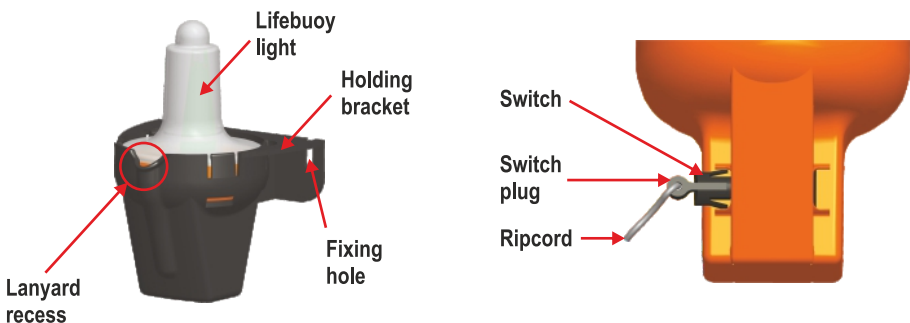

Fig 1: Parts Description
After installation of the holding bracket using one of the above ways, secure the lanyard to the lifebuoy ring (Fig 3). Then remove carefully the lifebuoy light from its holder base to ensure that the switch plug is fitted in the switch (Fig 1).
Afterwards ensure that the switch plug is fitted in the switch housing (Fig 1) and turn the switch in "OFF" position again. Fit the light into the bracket with the switch side to the back and the lanyard to the front (Fig 5).
WARNING: Ensure that the lanyard is placed in recess (Fig 1 & Fig 6). Any other way of installation might affect the proper release of the lifebuoy light. Refer to Part 4 - Inspection Process for proper installation.
The 71325 lifebuoy light is attached with a lanyard to a lifebuoy ring (Fig 3), which when thrown into the sea, pulls the lifebuoy light from its holding bracket and switches it "ON" automatically. During the deployment, the lifebuoy sweeps along the lifebuoy light from its holding bracket and a ripcord (Fig 1 & Fig 4) switches "ON" the light providing a flashing light of at least 2,0 Cd in all directions of the upper hemisphere for more than 2 hours and a average flashing frequency of 0,88Hz.
4. Ensure that the switch plug is fitted in the switch housing and turn the switch to the OFF position again (Fig 1 & Fig 4).